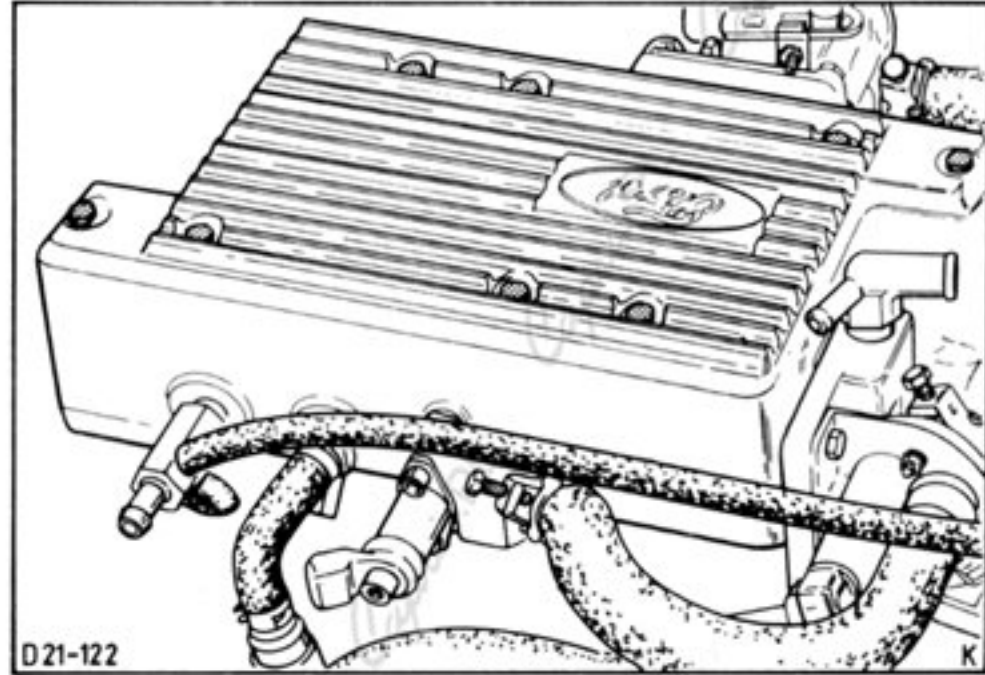

Fig.27. Remove air box.
7. Pull off breather hose from the rocker cover and dismantle air chamber (8 bolts) from the intake manifold. Fig.27.